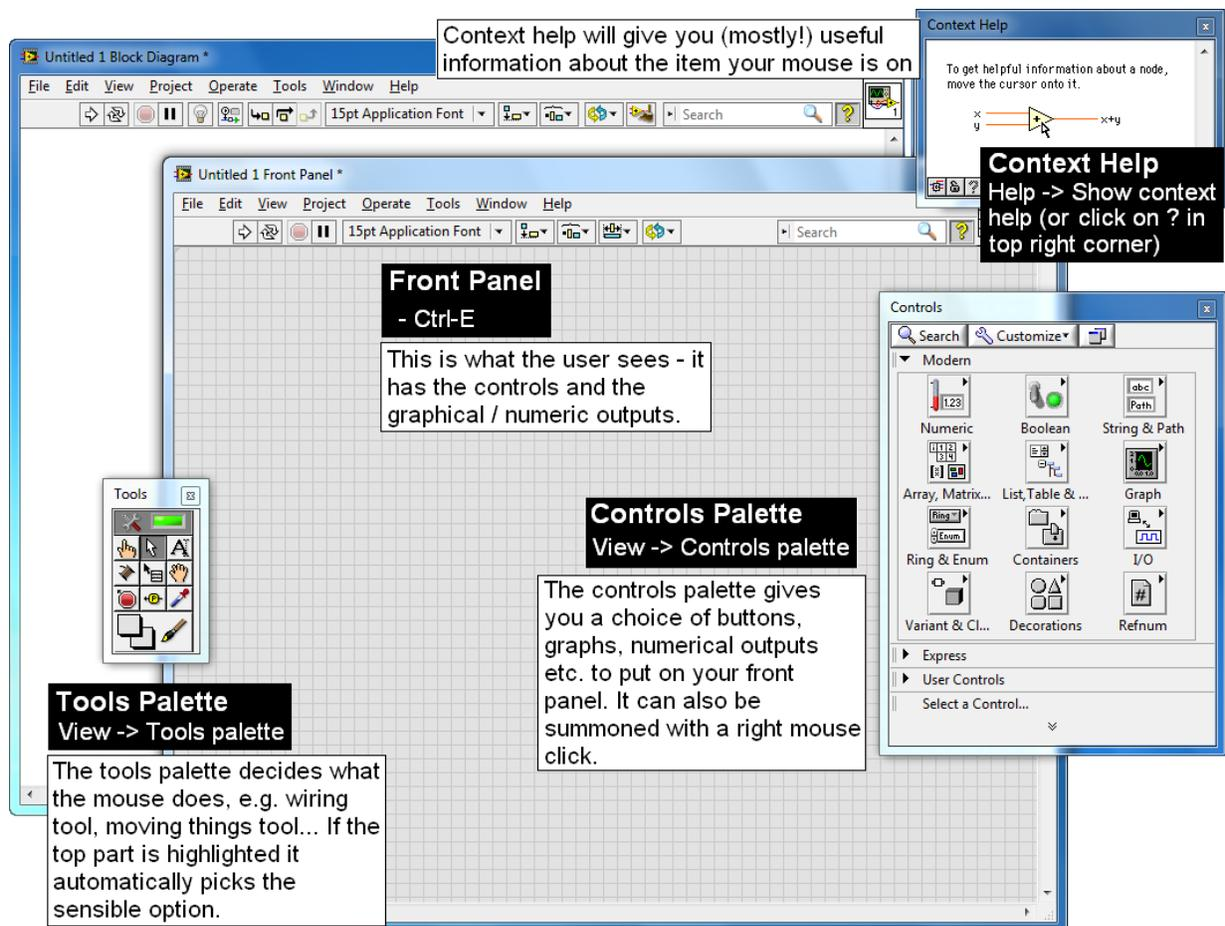

Figure 1.1; Front Panel. Control of the windows is described in the black boxes.
Open a blank VI; figures 1.1 & 1.2 show the program windows, with keyboard shortcuts and menu options to open or switch between them. **Note: LabVIEW has a built-in automatic tool selection feature on the Tools Palette (top section) that changes the behaviour of the mouse pointer, depending on what type of object you are pointing at.** You should have open a blank grey Front Panel – to make the user interface – and a Block Diagram, which is where the programming is done. It can be useful to open Context Help.
- Open the controls palette and choose *Modern*. To see icons and words as in figure 1.1, click the *Customize* button on the *Controls Palette* and choose *View this palette as » Category (icons & text)*. You can also choose *Change visible palettes* to see *Modern*, if it's not visible.